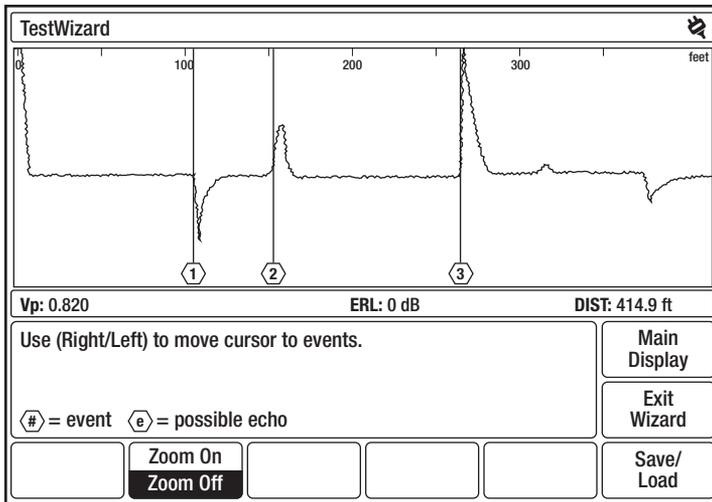

Figure 4-4: TestWizard Measurement Display
7. After selecting the event type, press **Next** to display the TestWizard Measurement display (Figure 4-4).